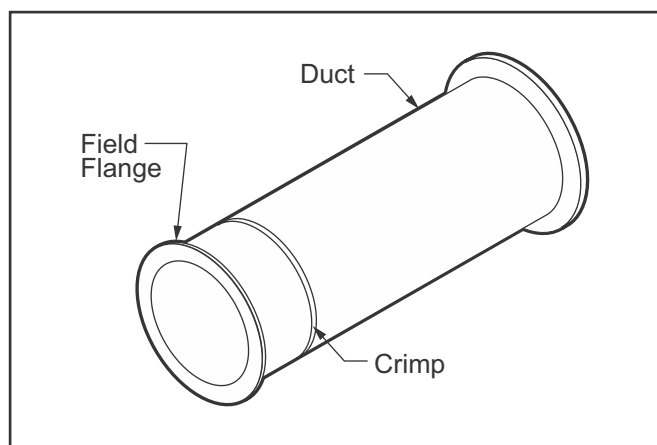

Fig. 24: PSP-EZ™ Field Flange Crimp
6. Crimp Duct: Then rotate the tool around the pipe making a shallow groove. The first pass should be very slight in depth. This operation is to make sure that the roller is following a straight line around the pipe. When a complete crimp impression is made, tighten again with the screw and crank to deepen the crimp. Use multiple passes to form a bead 1/32" deep minimum. When the crimp is complete, the clamp screw will get very difficult to tighten. When complete, loosen the clamp screw and remove the tool. (Fig. 24)